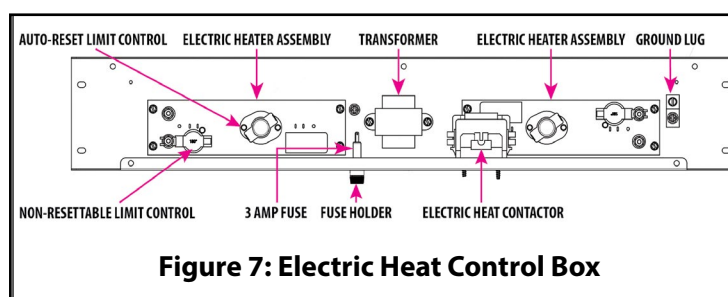

Figure 7: Electric Heat Control Box
8. Remove the screws that secure the auto-reset and non-resettable limit controls to the heater element mounting plate and remove the limit controls (See Figure 7).